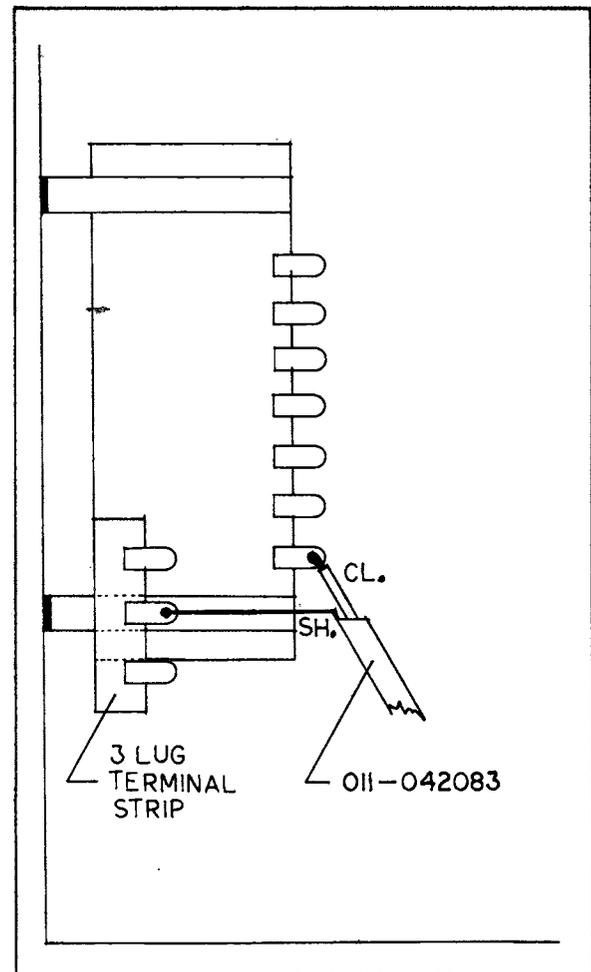

Figure A-8.
4. Route wire to Pedal Control Board mounted on left (rear view) end wall of organ. Connect center conductor to bottom lug on right side of Pedal Control Board. Connect shield to 3-lug terminal strip mounted on end wall next to Pedal Control Board. See Figure A-8.